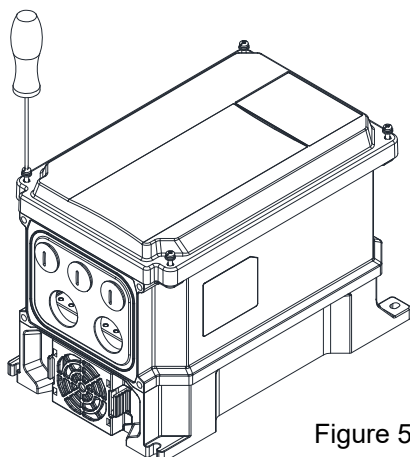
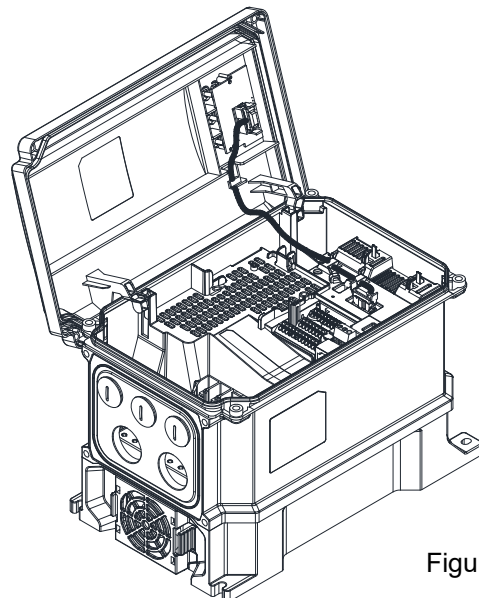

Figure 5-4
Figure 5-5
- 📖 Open the front cover before connecting the main circuit terminals and control circuit terminals. Open the cover according to the Figure 5-4 and Figure 5-5 below.
- ① Loosen the four screws on the front cover with a Phillips head screwdriver.
- ② Open the front cover to the left.